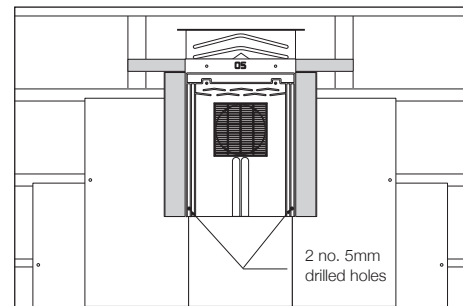

Fig. 3 – Secure underlay support to support batten
- 4 Position the slate ventilator centrally on the slate coursing below and level with adjacent slates. Drill two 5mm holes in the ventilator, ensuring adequate clearance to accommodate the copper disc rivet shanks for securing the tail of the overlapping slates (Fig. 3).